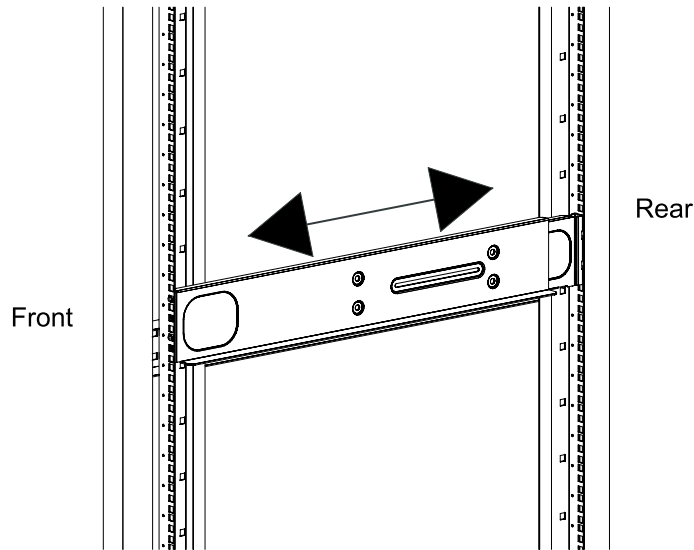

Figure 2-2. Securing the Rails to the Rack
4. Slide the rails apart far enough to match the depth of the rack. Position the rails with the template and secure the front of each to the front of the rack with two flathead screws, then secure the back of each rail to the rear of the rack with two flathead screws (see Figure 2-2). Note that the rails are left/right specific and very heavy.